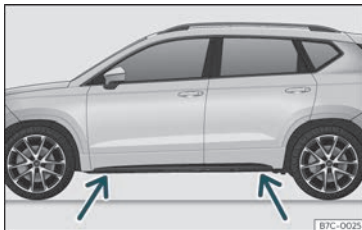

Fig. 33 Jack position points.
- Find the support point on the strut (sunken area) closest to the wheel to be changed >>> Fig. 33.